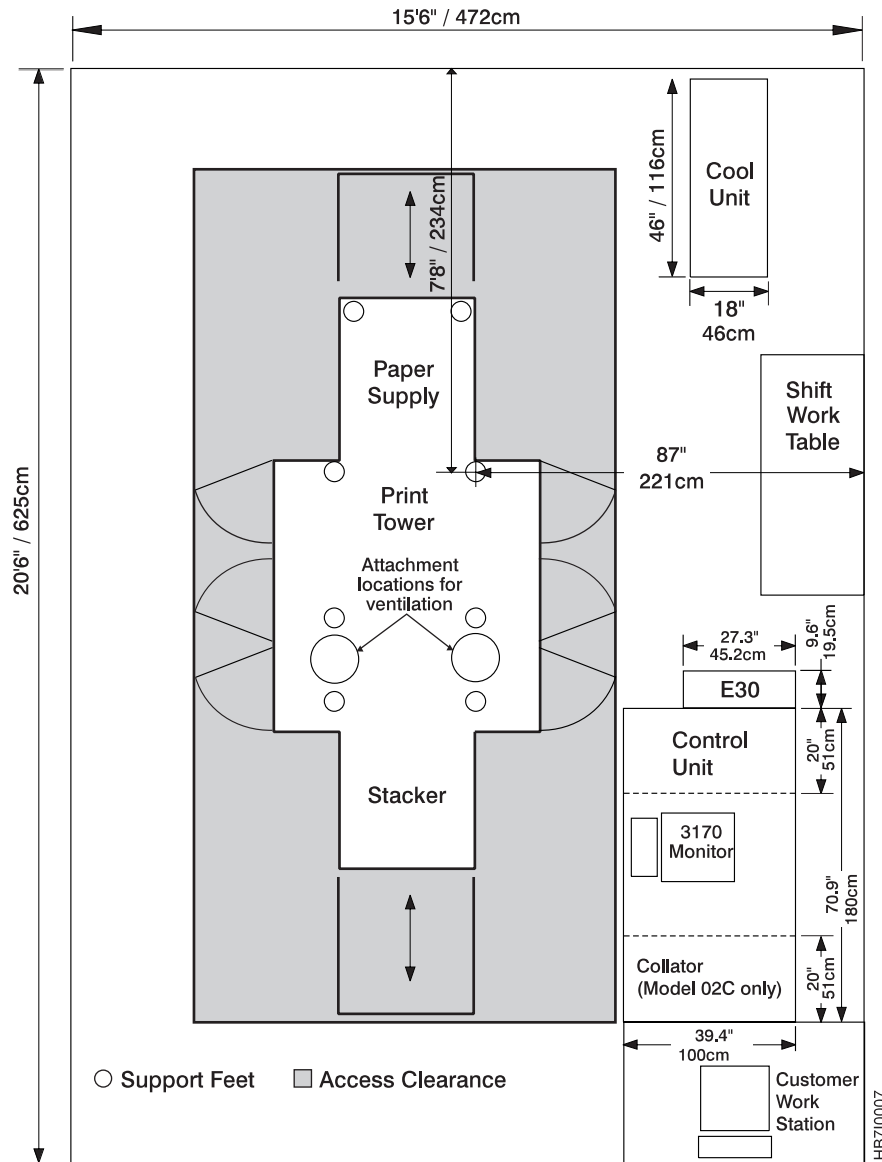
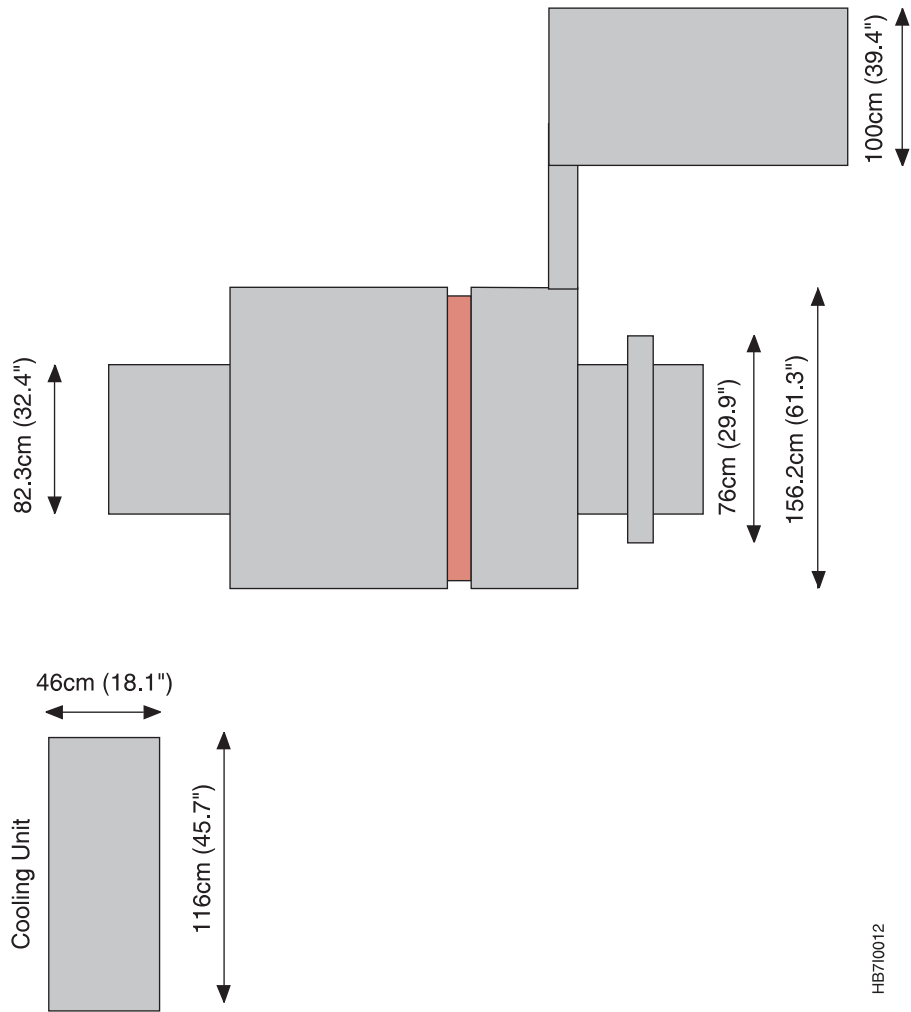
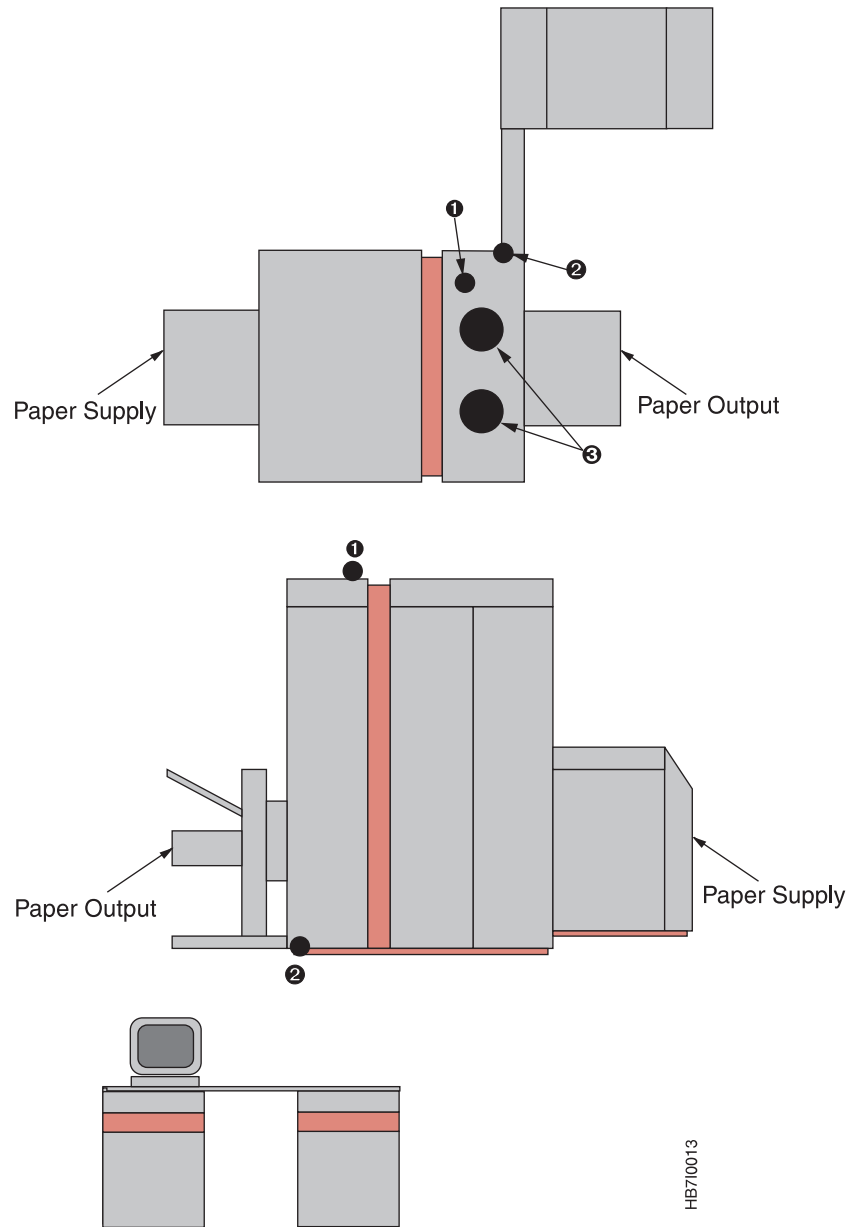

Figure 5. A Typical Space Installation
Figure 10. Top View Of The System
Figure 11. Locations for Power and Electrical
2. If the printer room has a volume smaller than 1 000 cubic meters (35 315 cubic feet) for each InfoColor 70 installed, active local exhaust from the machine to the outside of the building must be provided. This exhaust should be attached directly to the two cooling fans at the top of the printer. A fan/blower should be provided in the exhaust duct so that machine cooling air is not impeded. It must provide an air flow rate of 385 to 510 cmh (225 to 300 cfm) for each InfoColor 70. IBM recommends that 6-inch flexible tubing be attached to the two exhaust fans at the top of the printer. Refer to Figure 5 on page 13 or position 3 in Figure 11 on page 19.
Minimum space requirements are shown in Figure 6 on page 15 and Figure 7 on page 15. Additional dimensions for the printer, operator console, and cooling unit are shown in Figure 5, Figure 8 on page 16, Figure 9 on page 17, and Figure 10 on page 18.
The PES control unit connects to the print tower at position 2 of Figure 11 on page 19. The InfoColor 70 has image data cables, several optical control lines, and a power cord. The print tower provides power for the PES control unit. The power receptacle on the InfoColor 70 is located at position 1 of Figure 11 on page 19. The RS/6000 E30 is plugged into a wall outlet. The Collator may be plugged into either the PES control unit or a wall outlet, depending on your specific installation. The network connection is at the back of the RS/6000 E30. The densitometer is connected to the RS/6000 via a data cable and powered from a wall outlet.
Two insulated flexible hoses provide coolant to the print tower. The cooling hoses from the cooling unit connect to the right rear corner of the print tower at position 2 in Figure 11 on page 19. An externally grounded single phase connection (World Trade: 230 V 10 A; United States: 208–240 V 10 A) provides power to the cooling unit.